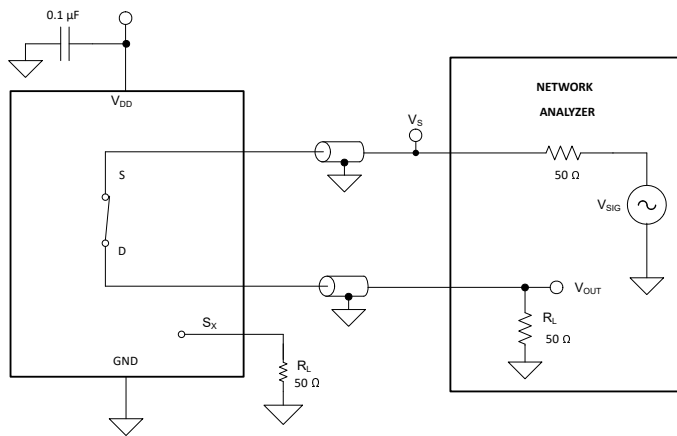

Figure 8-11. Bandwidth Measurement Setup
Bandwidth is defined as the range of frequencies that are attenuated by less than 3 dB when the input is applied to the source pin (Sx) of an on-channel, and the output is measured at the drain pin (D) of the device. Figure 8-11 shows the setup used to measure bandwidth.